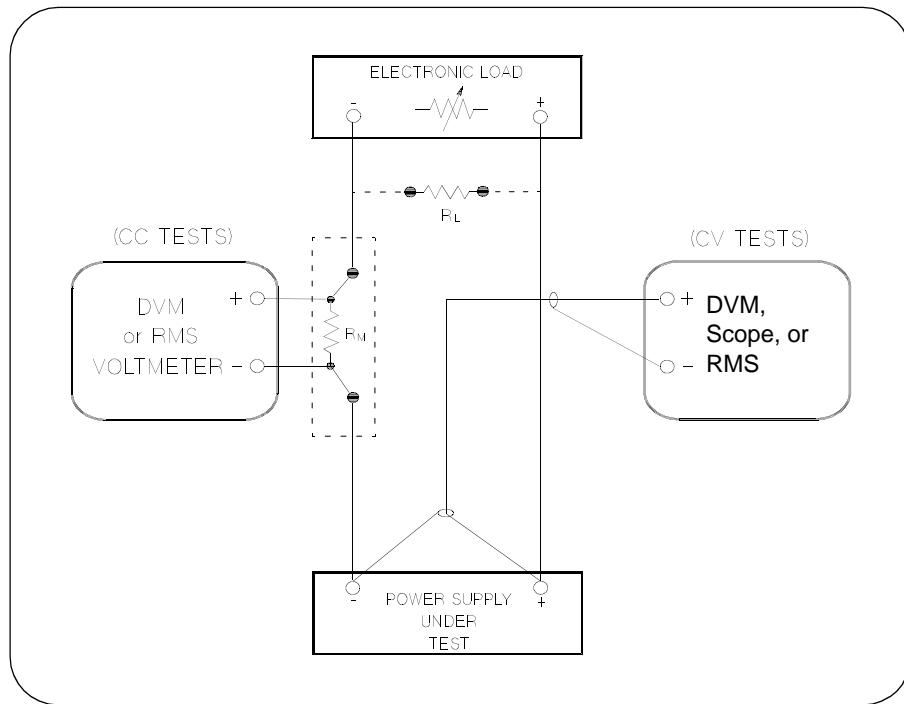

Figure A-1 Performance Verification Test Setup
Most tests are performed at the front terminals as shown in Figure A-1. Measure the dc voltage directly at the (+) and (-) terminals on the front panel.
To eliminate output current measurement error caused by the voltage drops in the leads and connections, connect the current monitoring resistor between the (-) output terminal and the load as a four-terminal device. Connect the current-monitoring leads inside the load-lead connections directly at the monitoring points on the resistor element (see R_M in Figure A-1).
- 1 Turn off the power supply and connect a digital voltmeter between the (+) and (-) terminals of the output to be tested as shown in Figure A-1.
- 1 Turn off the power supply and connect a digital voltmeter between the (+) and (-) terminals of the output as shown in Figure A-1.
- 4 Operate the electronic load in open mode (input off). Record the output voltage reading on the digital voltmeter again. The difference between the digital voltmeter readings in steps (3) and (4) is the CV load regulation. The difference of the readings should be within the limit of (5 mV)* or (9 mV)**.
- 6 Adjust the transformer to high line voltage (127 Vac for nominal 115 Vac, 110 Vac for nominal 100 Vac, or 253 Vac for nominal 230 Vac). Record the voltage reading on the digital voltmeter. The difference between the digital voltmeter readings in steps (5) and (6) is the CV line regulation. The difference of the readings should be within the limit of (5 mV)* or (9 mV)**.
- 1 Turn off the power supply and connect the output to be tested as shown in Figure A-1 to an oscilloscope (ac coupled) between (+) and (-) terminals. Set the oscilloscope to AC mode and bandwidth limit to 20 MHz. Connect a resistive load (13.5Ω)[‡] to the terminal at (B) as shown above.
- 1 Turn off the power supply and connect the output to be tested as shown in Figure A-1 with an oscilloscope. Operate the electronic load in constant current mode.
- 1 Turn off the power supply and connect a 0.01Ω current monitoring resistor (R_{M1}) across the output to be tested and a digital voltmeter across the current monitoring resistor (R_{M1}) as shown in Figure A-1.